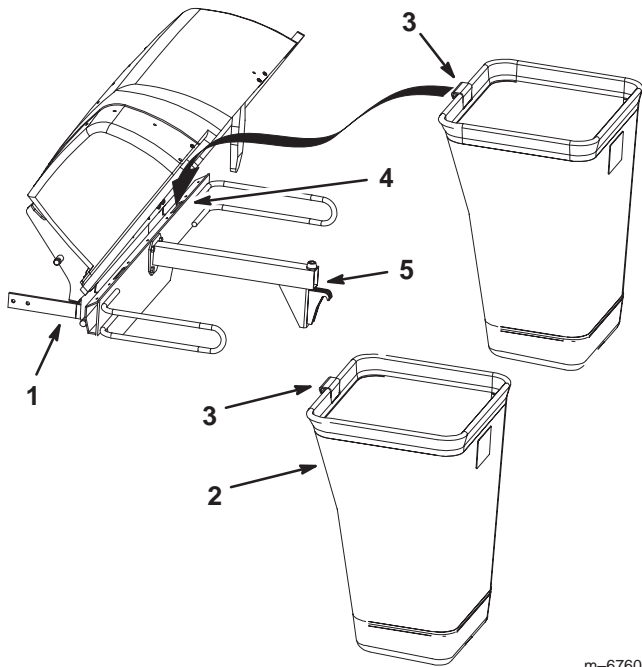

Figure 19
3. Install the bag tab into the notch in the hood assembly (Fig. 19). Do this for both bags.
Note: The bag will rest on the bagger frame (Fig. 19).
7. Install the bag tab into the notch in the bagger support frame (Fig. 19). Do this for both bags.